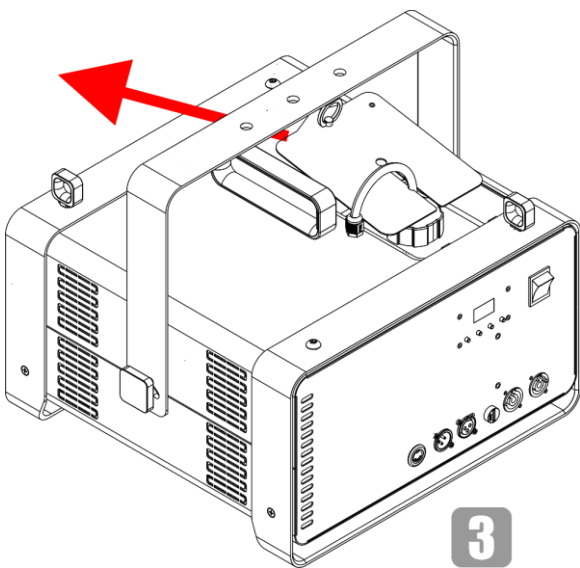

Fig. 11
- 03) Remove the service lid, as shown in Fig. 11.